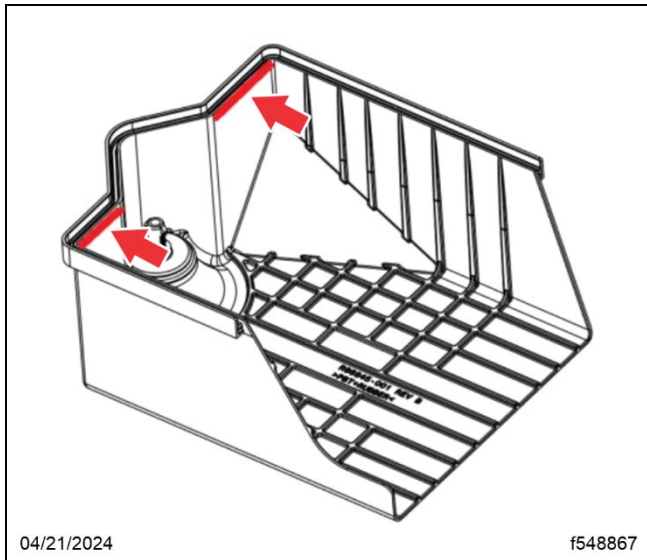
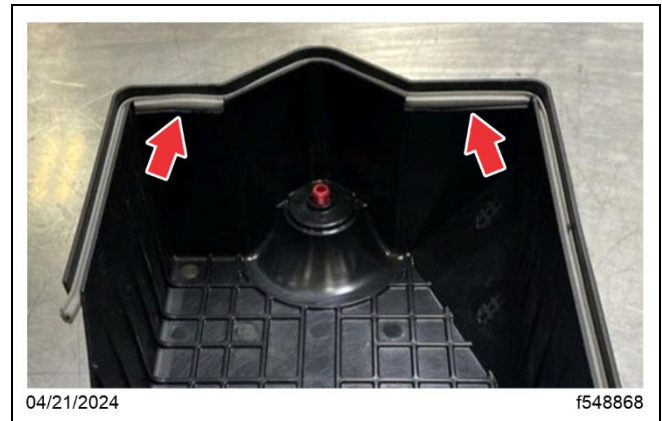

Fig. 9, Material to be Removed from the Dress Cover
Fig. 10, Material Removed
13. Remove the gasket from the dress cover and remove the material to allow the cover to fit over the upper bracket. See Fig. 9 and Fig. 10.